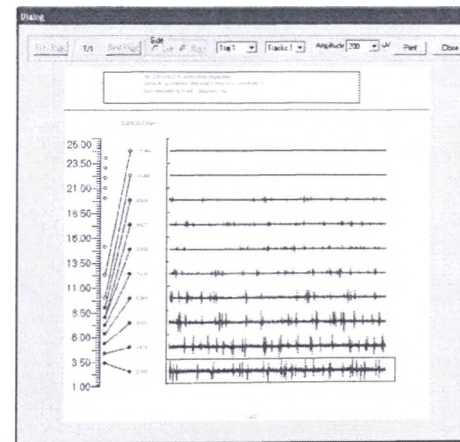

Figure 61: Print Track Dialog Box
- **Print:** Open a print dialog box by double clicking on the desired track column. At the depth that was clicked, the saved segment is highlighted by a black box. See Figure 61